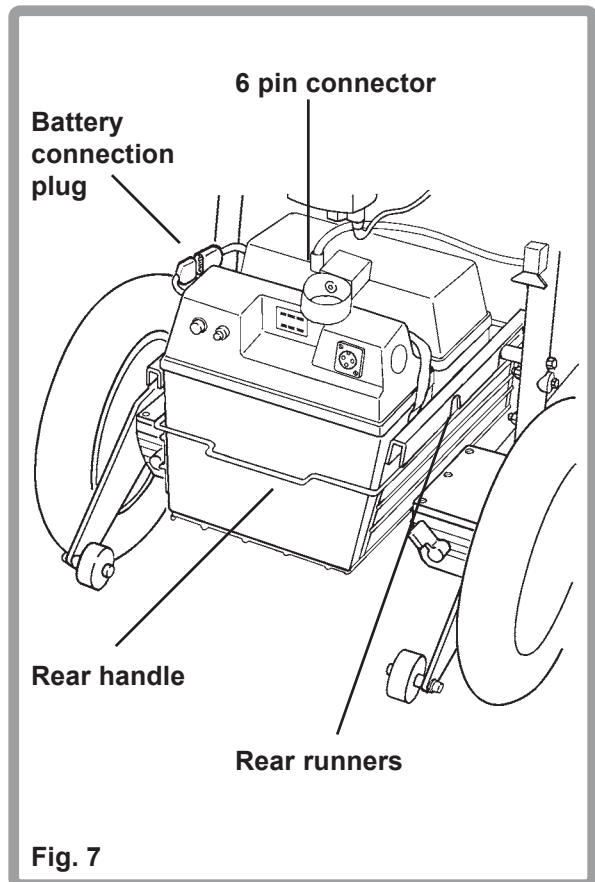

Fig. 7
3. Disconnect the power lead 6 pin plug from the rear battery (Fig. 7). Lift and pull the battery basket rear handle to gain access to the batteries. Disconnect the battery connection plug. Depress the buckle lock to release the rear battery and lift the battery out. Unlock the retaining strap on the front battery and lift it out.
5. Disconnect the motor power supply plug (Fig. 7).